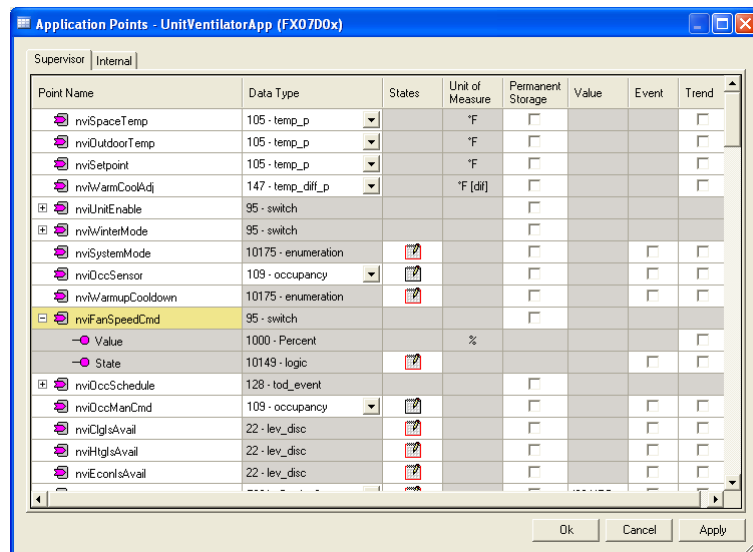

**Figure 107: Launching the Application Points Plug-in**
- From the Application menu, select application points (Figure 107).